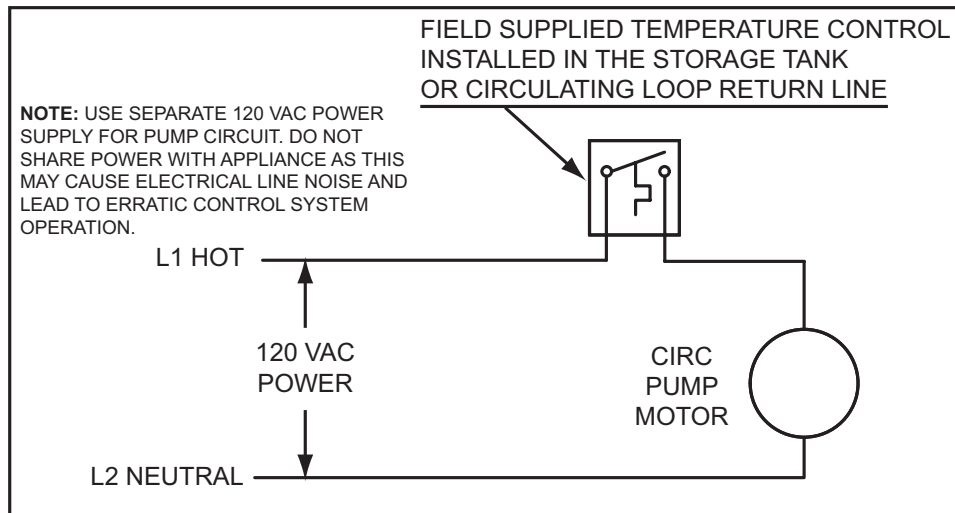
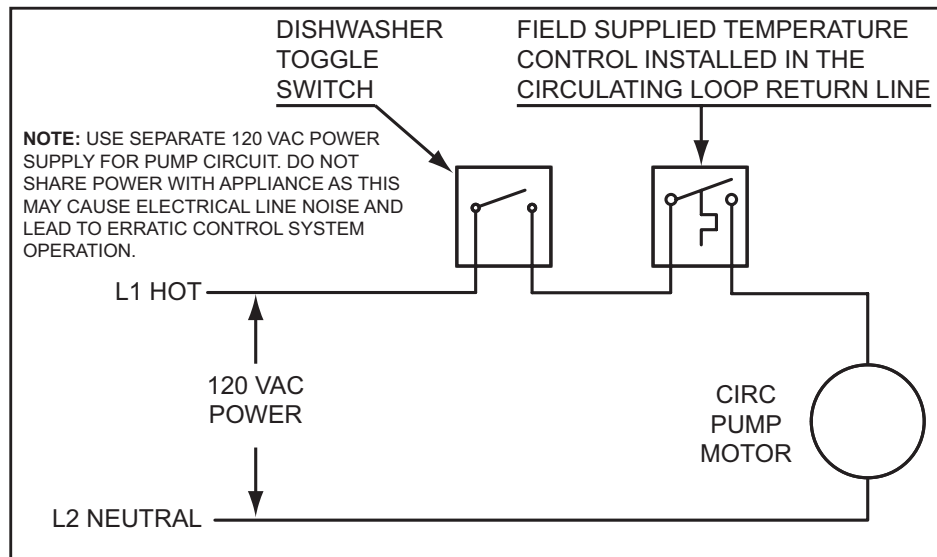

Figure 59
Figure 60
5. If a pump is being installed between a water heater and storage tank or on a building recirculation loop wire according to Figure 59 on page 66.
6. If a pump is being installed in a recirculation loop between the water heater and a commercial dishwasher wire according to Figure 59 or Figure 60 on page 66.